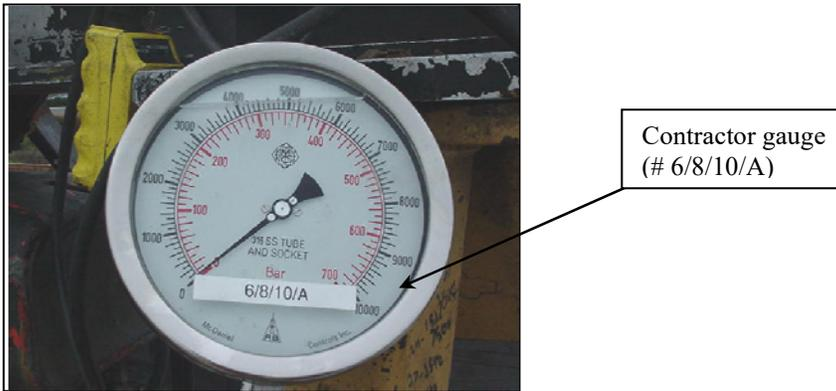

Figure B-3.
3. Get Jack # and Gauge # (See Figure B-3) from the Contractor, then obtain the gauge factor (GF) and the ND number from HQ’s Active Prestress/Post Tensioning Jack Calibration Chart (you can get this from the SC Webpage, under Field Resources, Prestress Calibration Charts).